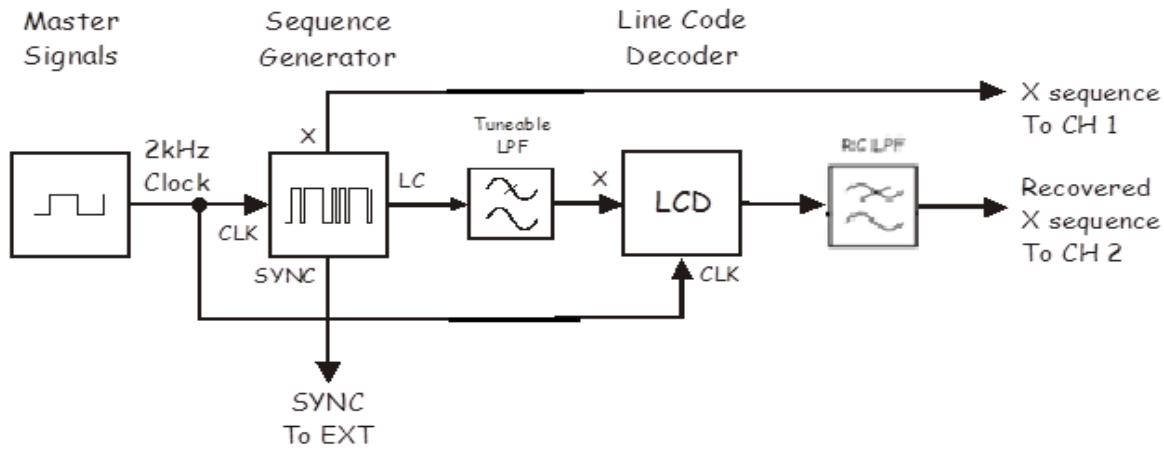

**Figure 23: Distorted and Non distorted eye patterns when fc is at 2 kHz with RUN feature**
5. In Channel 1, you will see eye-pattern corresponding to a non-distorted digital data. In Channel 2, (Figure 23) you will see eye-pattern corresponding to the line coded waveform, after passing through the channel, represented by a low pass filter with cut off frequency as  $R_b$  KHz. This is a distorted line code. *It is easy to understand that one cannot simply sample the waveform at any instant during the bit period and declare the presence of bit 1 or 0. In this case, the eye is not completely open.*